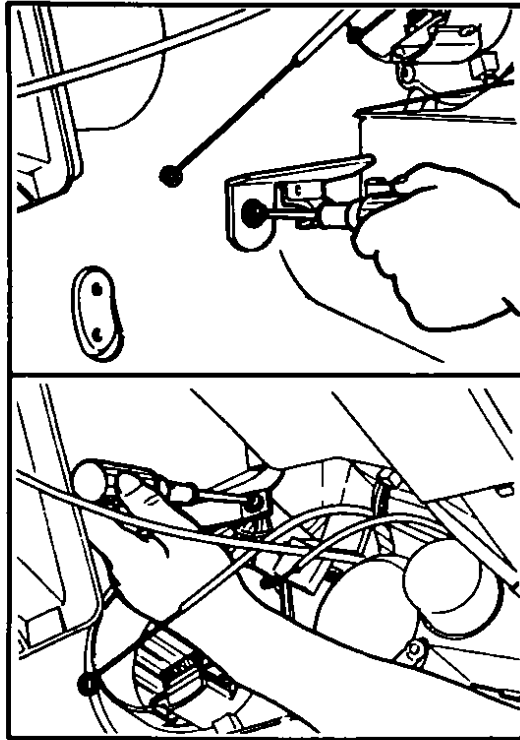

Fig 101 Heater unit bolt locations
- 8 Remove the three bolts (one on each side of heater and one on top of unit), Fig 101